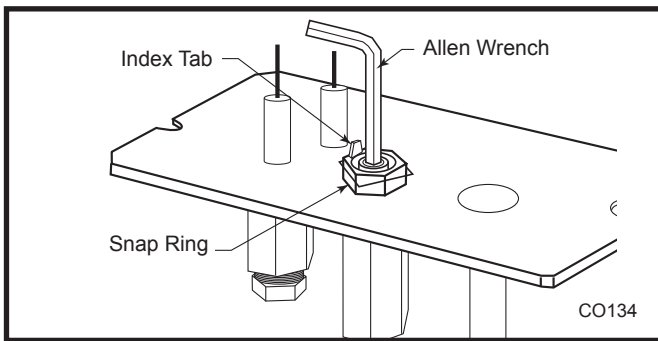

Fig. 56 Remove pilot orifice.
2. Remove pilot orifice with 5/32" Allen wrench. (Fig. 56)